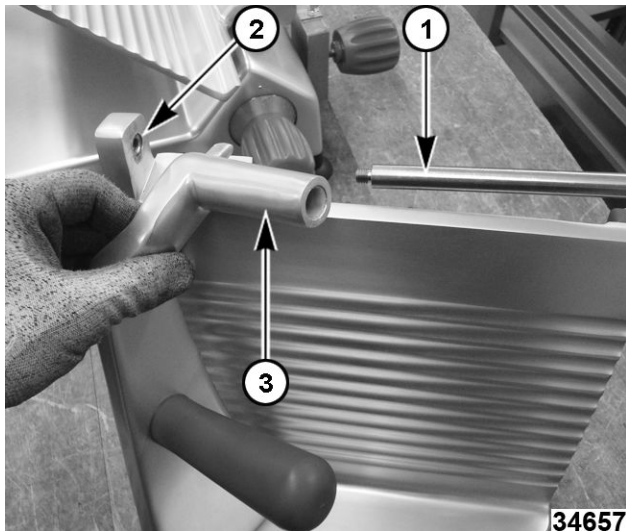

Fig. 4
2. Unscrew slide rod (1, Fig. 4) from bushing (2, Fig. 4).
3. Remove slide rod and pusher (3, Fig. 4).